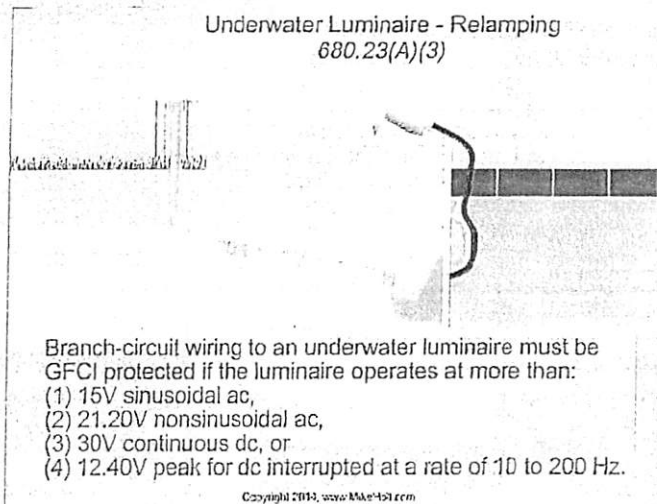

Figure 680-29
(3) **GFCI Protection of Underwater Luminaires, Relamping.** Branch circuits that supply underwater luminaires operating at more than 15V for sinusoidal alternating current, 21.20V peak for nonsinusoidal alternating current, 30V for continuous direct current, and 12.40V peak for direct current interrupted at a rate of 10 to 200 Hz or less [680.2 Low-Voltage Contact Limit] must be GFCI protected. Figure 680-29